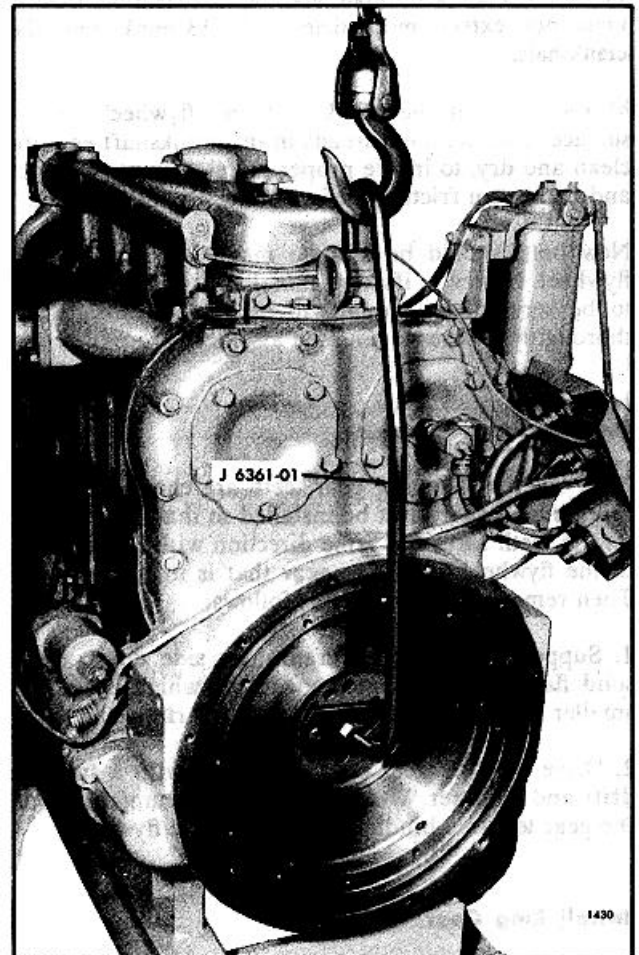

Fig. 3. Removing Flywheel
3. Attach a chain hoist to the lifting tool to support the flywheel as shown in Fig. 3.